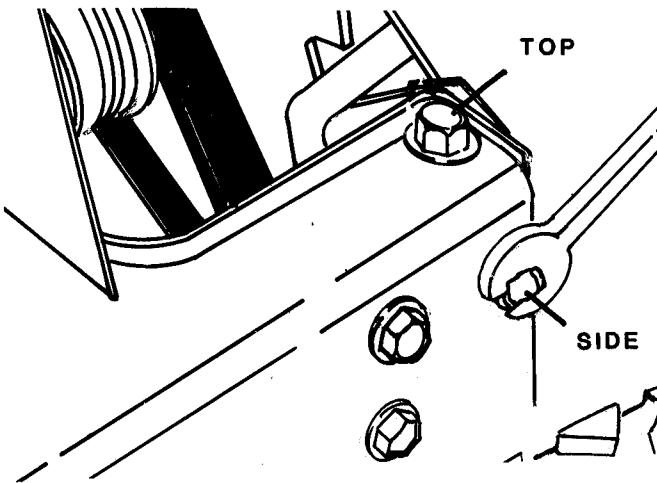
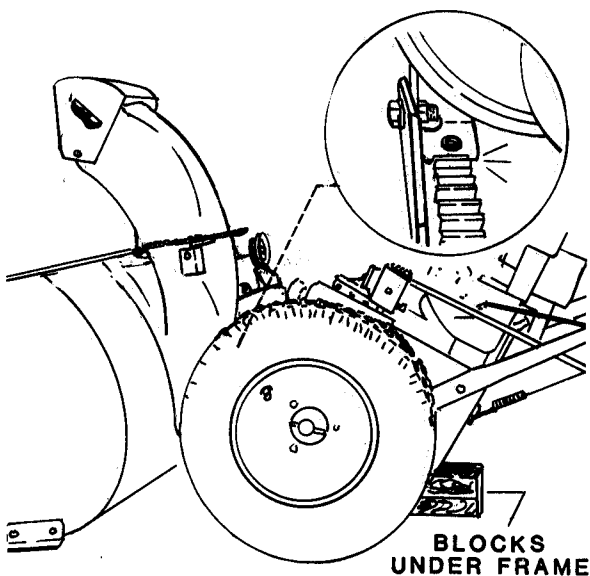

FIGURE 3.5 — REMOVING FRAME BOLTS
FIGURE 3.6 — TRACTION AND BLOWER UNITS SPLIT
**STEP 4.** Loosen the bolts on the bottom tabs and remove the bolts from the top and sides of the frame (figure 3.5). **CAUTION:** Traction unit will fall away when the last bolt is removed unless held up. The power or traction unit can now be lowered away from the collector unit. **NOTE:** When splitting these units, do not allow the handles to fall all the way to the floor as the tabs on the left side of the frame could bite into and damage the traction drive gear. Lower the handles only about half way down to prevent this (figure 3.6).